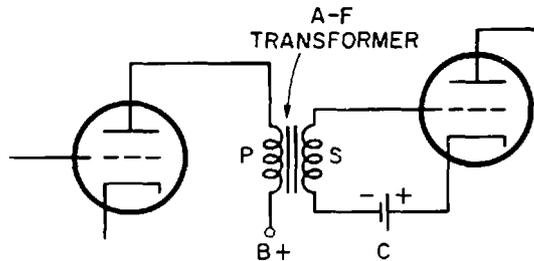

**Fig. 39-13.** How the output transformer is used to match the impedance of the voice coil to the resistance of the tube.
**Example of Impedance Matching.** The principles of impedance matching must be used in every circuit where electrical energy is transferred. Assume that we have a type 6BC4 tube acting as a class A power amplifier and that we wish to deliver the output to the voice coil of a dynamic speaker. The plate resistance of the type 6BC4 tube is 4,800 ohms and the impedance of the voice coil is, say, 8 ohms (Fig. 39-13).